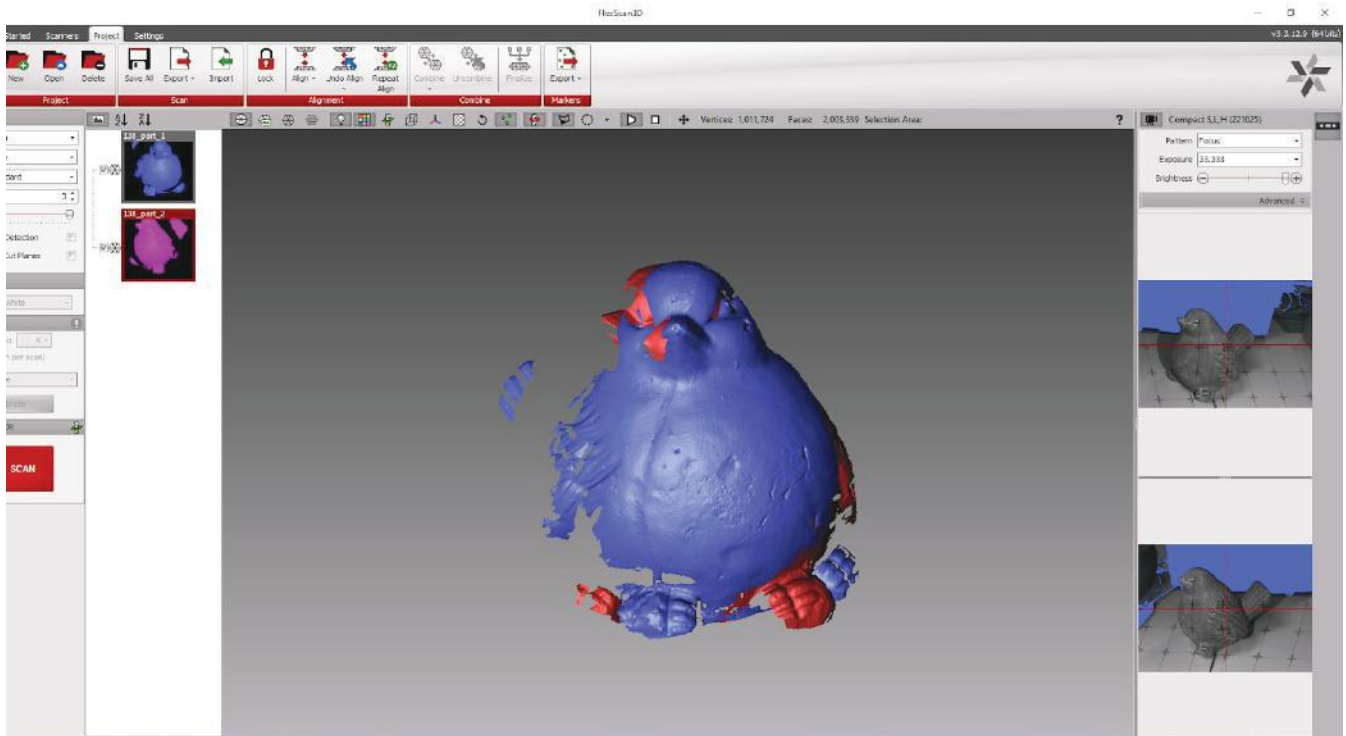

Figure 5
- In order to take multiple scans of the object, change the orientation of the object with respect to the scanner. Take a new scan and you should be getting a new scan data overlapping the previous scan similar to Figure 5.